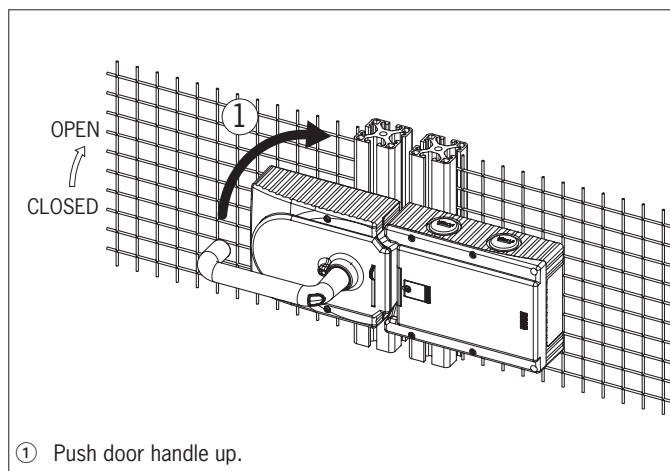
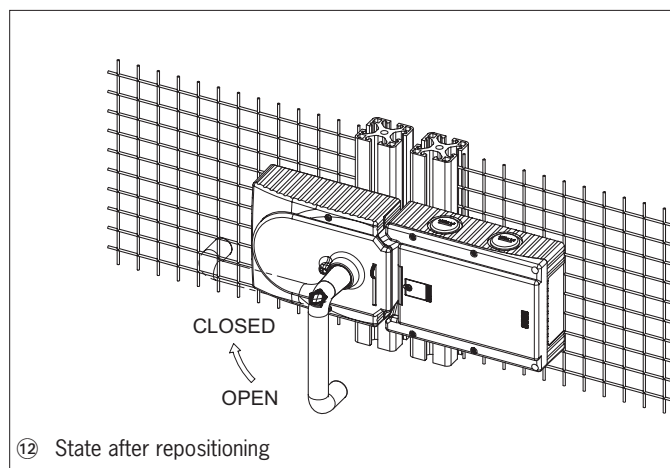

Fig. 10: Changing actuating direction, step ①
Fig. 15: Changing actuating direction, final state
For mounting steps, see Fig. 9 and Fig. 10 to Fig. 15.
- The system is mounted the other way around for doors hinged on the left. In other words, the guard opens by pressing up the door handle (see Fig. 10). For this reason the actuating direction of the door handle must be changed (see Fig. 10 to Fig. 15).